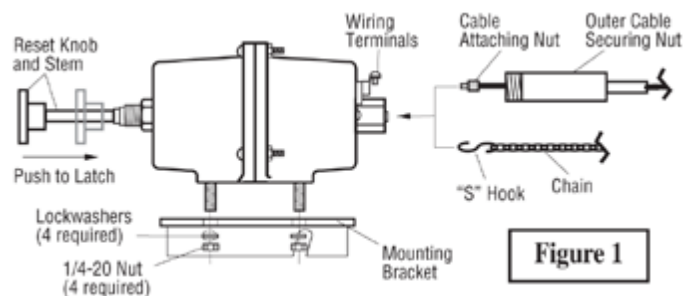

Figure 1
1. Mount the RP75 using the 40-05-0161 mounting bracket or similar (see Figure 1). If installing the RP75 to an engine compartment firewall, go to Step 2.
1. To install the control linkage (cable or chain), apply voltage to the RP75. Push in the reset knob. If installing the cable, insert the cable attaching nut into the RP75 and tighten snugly (see Figure 1). DO NOT OVER TIGHTEN or threads may strip. Attach and tighten outer cable securing nut. If installing the chain, attach the S hook to the RP75 (see Figure 1).